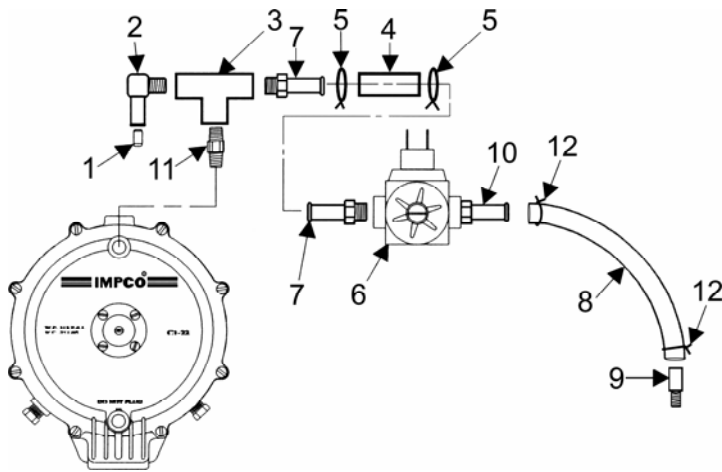

Figure 1
2. Install the recommended IMPCO fuel system components for your specific application (**the Commander requires an FB series carburetor/mixer**). Preset the fuel power adjustment to the middle of the rich/lean scale. Install the IMPCO fuel control valve (FCV) on the regulator/converter assembly, as shown in Figure 1.
11. Mount the FCV (Fuel Control Valve) to the IMPCO regulator as shown in Figure 1.
*Also included in the parts list shown in Figure 1 on page 3